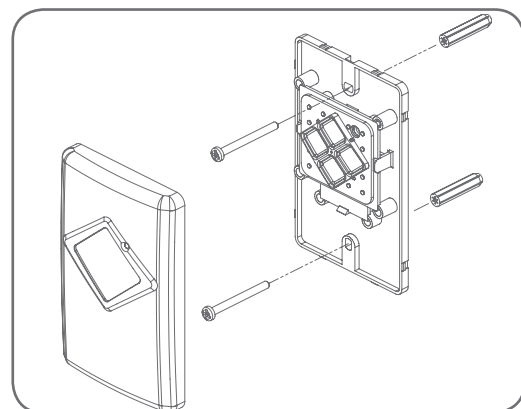

Fig. 37
- Mount the transmitter in a convenient location, yet out of reach of children and at least 1.5m off the ground (**Fig. 37**).